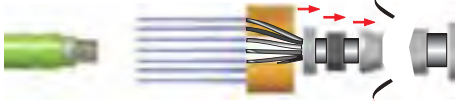

Fig. 15.5 Fit divided insulating sleeve
2. Pull the insulating sleeve (10) apart and press the conductors together again until they engage (Fig. 15.5).